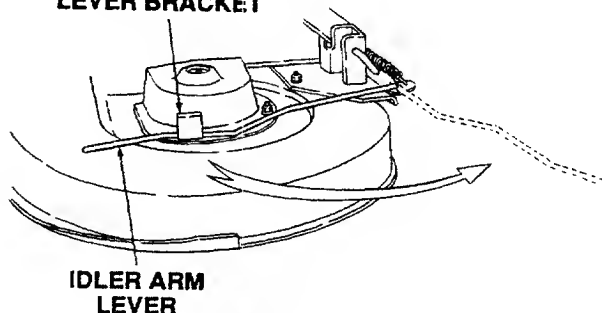

Figure 35
3. Lower the tractor implement lift handle to its lowest setting. Disengage the deck idler arm lever from its stop bracket and then release the spring tension until the lever is at the outside of the deck. (Refer to Figure 35.)